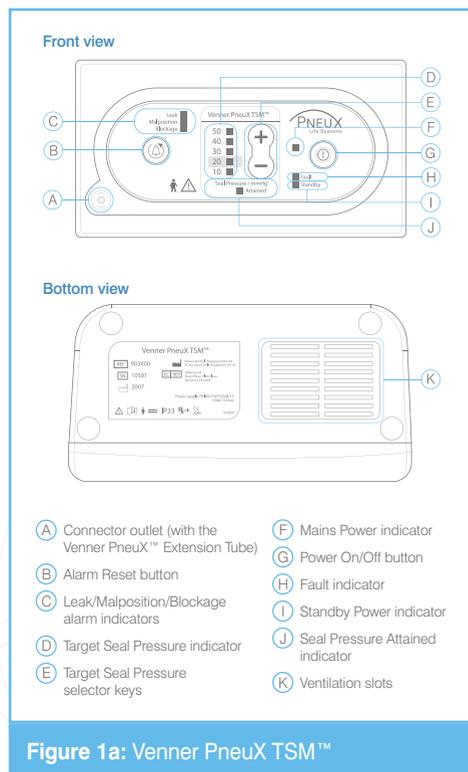
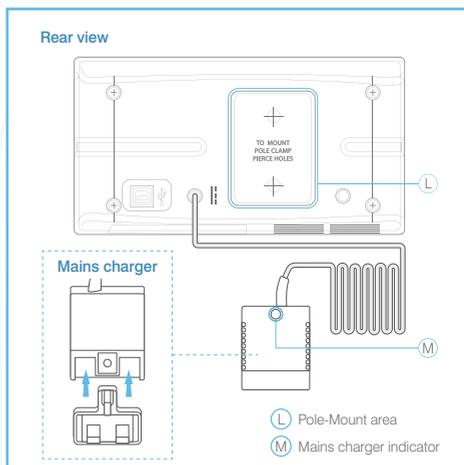
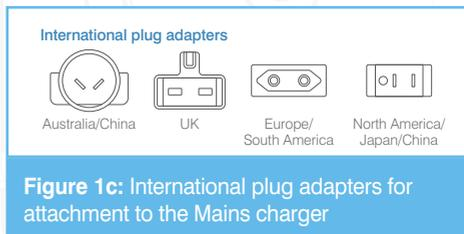
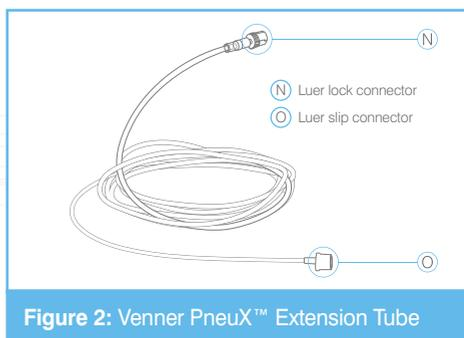

Figure 1a: Venner PneuX TSM™
Figure 1b: Venner PneuX TSM™
Figure 1c: International plug adapters for attachment to the Mains charger
Figure 2: Venner PneuX™ Extension Tube
The Venner PneuX TSM™ (Figures 1a and 1b) is an automated cuff pressure controller designed to be used with the Venner PneuX™ Endotracheal Tube (ETT) and Tracheostomy Tube (TT) as a complete system.
The Venner PneuX TSM™ Cuff Pressure Controller has an attached Mains charger, audible alarms, LED light indicators and function buttons (refer to Section 3: Alarms, Buttons and Indicators). It is supplied with four international plug adapters (Figure 1c), a pole clamp and two long screws (5 mm x 14 mm) for mounting purposes if required.
The 2-metre single use Venner PneuX™ Extension Tube (Figure 2) connects the Venner PneuX TSM™ with the Venner PneuX™ ETT/TT. One end of the tube is a uniquely designed Luer lock connector for attachment to the Connector outlet on the Venner PneuX TSM™ and the other end is a Luer slip connector which has a protective sleeve impeding connection to Luer lock devices for attachment to the pilot valve of the Venner PneuX™ ETT/TT.
Position Venner PneuX TSM™ on a suitable flat surface or on a drip pole. For attachment to a drip pole pierce through the two target points on the Pole-Mount area (Figure 1b:L) of the device. Attach the clamp to the device using the long screws provided and thereafter, secure tightly to the drip pole.
Attach the appropriate international plug adapter (Figure 1c) to the Mains charger by sliding its vertical slots through the bottom of the Mains charger (Figure 1b). Begin operating the Venner PneuX TSM™ by connecting the Mains charger to a power outlet and observe a GREEN light appearing on the Mains charger indicator (Figure 1b:M) to confirm there is power supply. A RED light from the Standby Power indicator (Figure 1a:I) should also illuminate. If no light appears on either indicators, check the connection.
Proceed to attach the Luer lock connector (Figure 2:N) of the Venner PneuX™ Extension Tube to the Connector outlet (Figure 1a:A) on the Venner PneuX TSM™, and the Luer slip connector (Figure 2:O) to the pilot valve of the ETT/TT. Ensure that there is no accidental pulling or tugging of the Extension Tube.
Switch on the Venner PneuX TSM™ by pressing the Power On/Off button (Figure 1a:G). All LED indicator lights will flash rapidly five times before adjusting to the default seal pressure illuminated by the Target Seal Pressure indicator (Figure 1a:D). The default seal pressure setting is 20 mmHg (approx. 30 cmH₂O) unless a user change this using the Target Seal Pressure Selector Keys (Figure 1a:E). During normal operation, all 3 lights (Mains Power indicator (Figure 1a:F), Target Seal Pressure indicator and Seal Pressure Attained indicator (Figure 1a:J) will illuminate at all times.
CAUTION: Should any of the three lights not illuminate, press the Alarm Reset button (Figure 1a:B) to reset Venner PneuX TSM™. If this does not work, do not use the Venner PneuX TSM™ and disconnect the Extension Tube (refer to Section 2.4: Disconnection). Contact the local distributor for technical support.
Alarm Reset button (Figure 1a:B)
Leak, Malposition and Blockage alarm indicators (Figure 1a:C)
Target Seal Pressure indicator (Figure 1a:D)
Target Seal Pressure Selector Keys (Figure 1a:E)
Mains Power indicator (Figure 1a:F)
Power On/Off button (Figure 1a:G)
Fault indicator (Figure 1a:H)
Standby Power indicator (Figure 1a:I)
Seal Pressure Attained indicator (Figure 1a:J)
Mains charger indicator (Figure 1b:M)